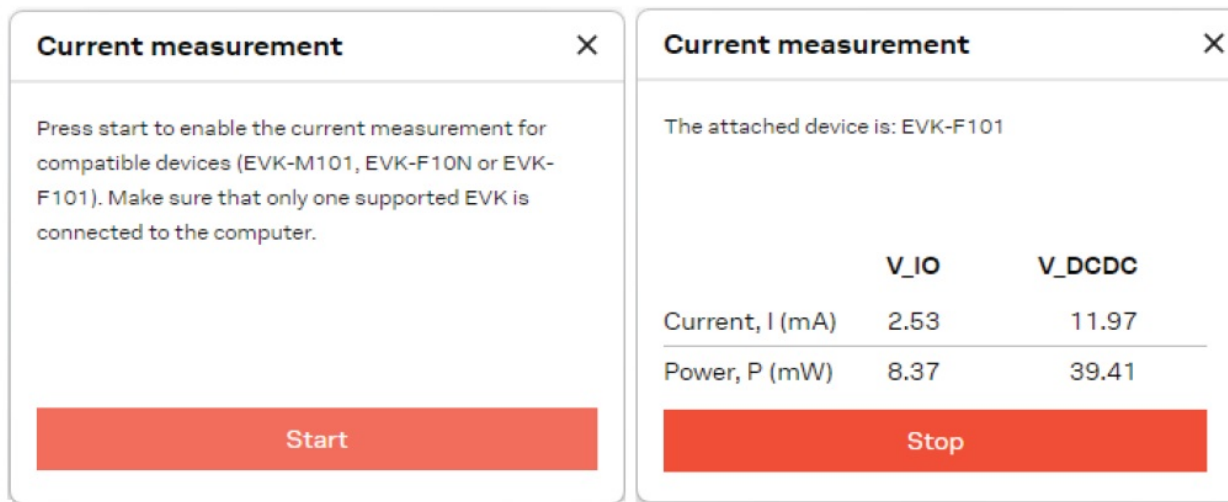

Figure 5: u-center 2 current measurement window
3. To start the current measurement, press the Start button as depicted on the left-hand side of Figure 5. The Current measurement window continuously updates the V_{IO} and DC-DC converter input current values. To finish the continuous current measurement, press the Stop button.